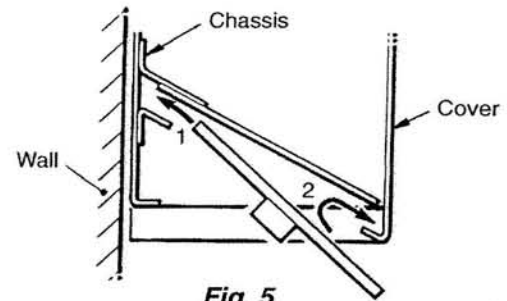

Fig. 5
2. The filter can now be fitted, see Fig. 5. Slide the filter up into the channel inside the back of the unit (1) then lift the front of the filter against the guides at each end of the chassis and slide the filter forwards to rest against the cover (2). A small handle is moulded into each end of the filter to assist removal/ replacement.
4. To replace the filter, see Fig. 5. Slide the filter up into the channel inside the back of the unit (1) then lift the front of the filter against the guides at each end of the chassis and slide the filter forwards to rest against the cover (2).